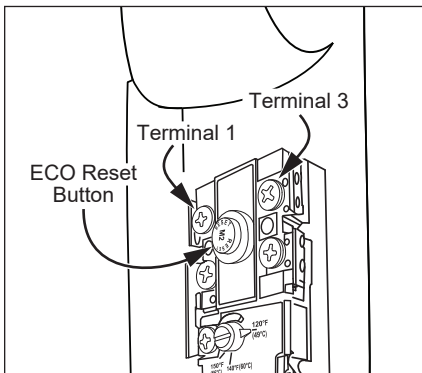

Figure 36 - Energy Cut Off (ECO) Button.
that Power is OFF (screw terminals 1 and 3 shown in Figure 36).
- Press the red ECO reset button (Figure 36).